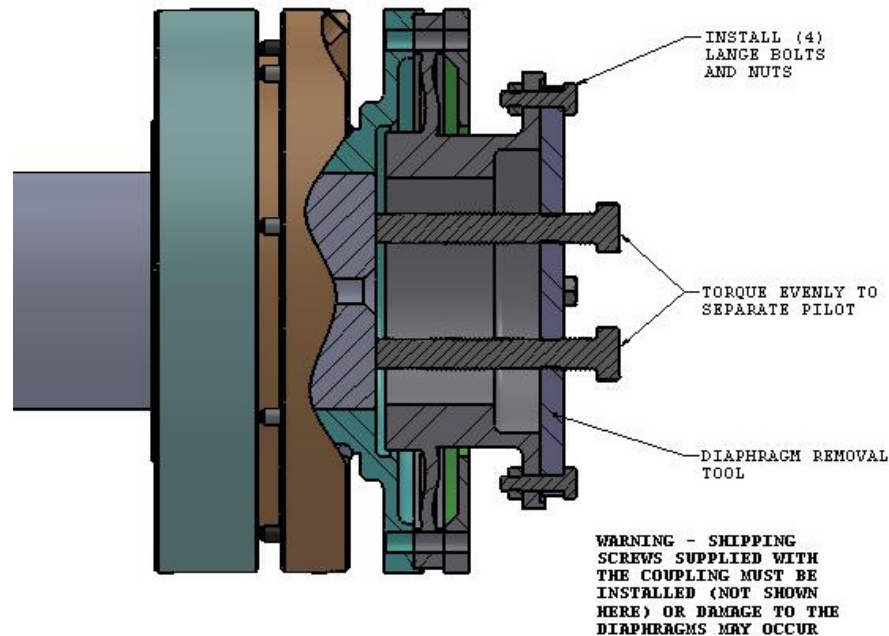

FIGURE 8: Use of the Diaphragm Removal Tool
4.2.2.3 A removal tool is sometimes provided with the coupling that allows the pilots to be separated from the flange end. Place the tool as shown in Figure 8. If the 1/2 inch hex bolts contact the shaft before the disc contacts the flange face, loosen the 1/2 inch bolts.
4.2.2.4 Install (4) of the flange bolts that were previously removed to secure the tool. See Figure 8.